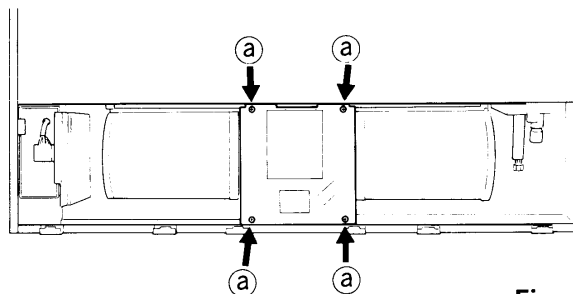

Fig. 6
- 3 ) Remove the four screws (a) fixing the fan motor cover. Fig. 6